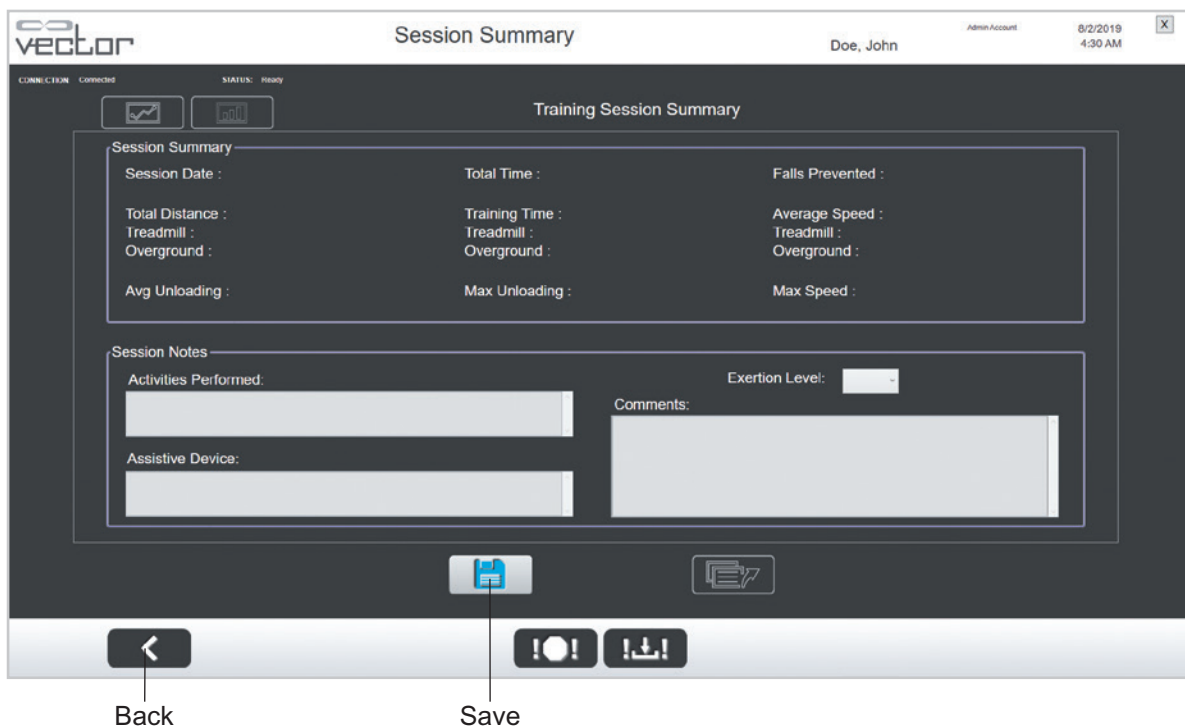

Figure 5-20: Training Session Screen
Both DBWS and Trolley Tracking should be turned off (inactive) before stopping a training session. Depending on the unloading value, the Trolley Tracking and DBWS buttons will be green (>10 lbs.) or grayed out. To end a training session, press the Previous Screen button. See Figure 5-20. Once a training session ends the Fall Limit setting will return to the default value. The Dynamic Unloading and Auto Recovery settings used with each patient will carry over between training sessions.
1. From the Training Session screen press the Session Summary button. See Figure 5-20.